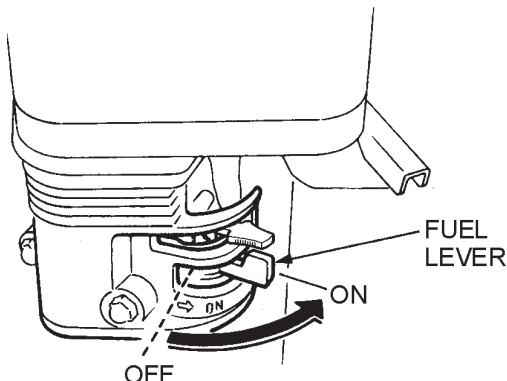

Figure 11. Engine Fuel Valve Lever
1. Place the engine **fuel valve lever** (Figure 11) to the "ON" position.
2. Place the engine **fuel valve lever** (Figure 11) in the **OFF** position.